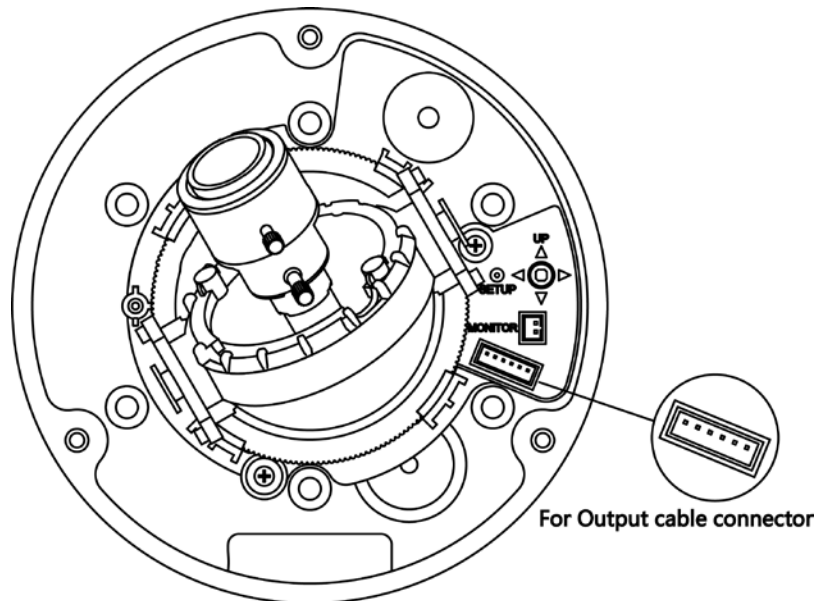
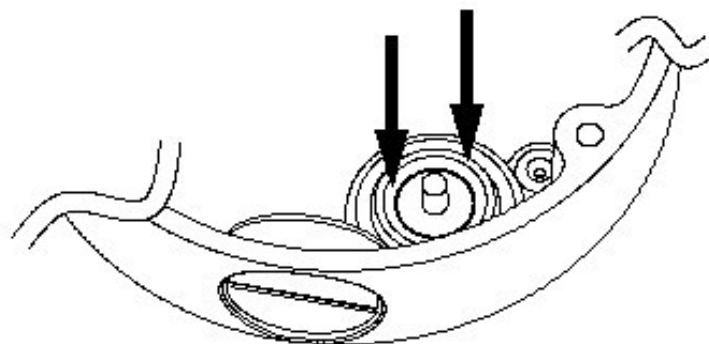

Figure 2-10
Figure 2-11
1. Unplug the camera's internal Output cable connector that inserted in the interface (refer to **Figure 2-10**) and push the waterproof rubber plug out from within camera as shown in **Figure 2-11**.